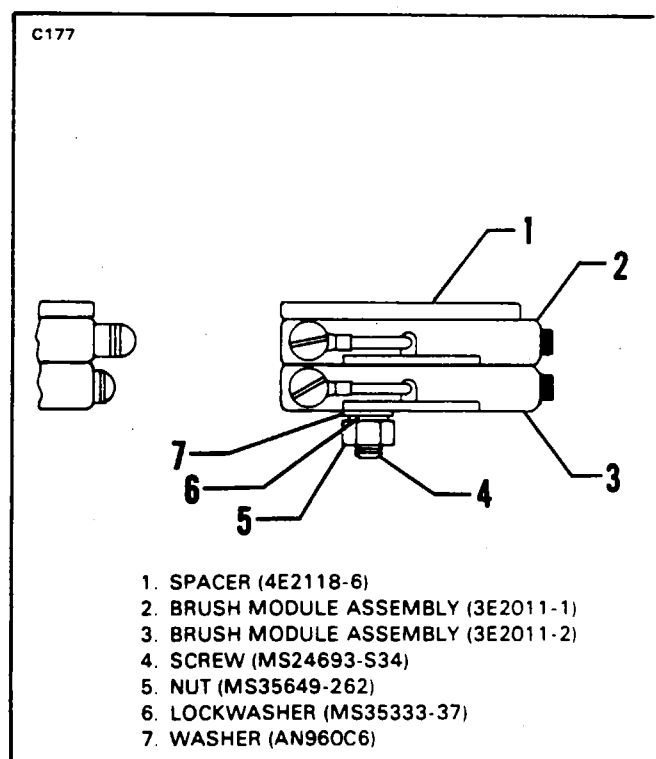

Figure 30-21. Modular Brush Assembly 3E2071
Each 3E2071 modular brush assembly consists of one 3E2011-1 brush module, one 3E2011-2 brush module and a 4E2218-6 spacer. The brush modules, which consist of a plastic housing with an integral brush and spring, are held together by screws, washers, lockwashers and nuts to form a modular brush assembly. (Refer to Figure 30-21.)
3. Reassemble modules and spacer as shown in Figure 30-21.